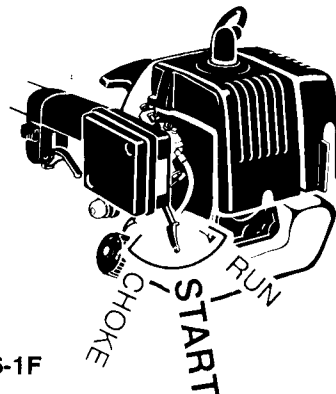

Figure 6-1F
5. Move choke lever to "START" position. Pull starter rope again 4 times while holding trigger at the full throttle position. (Figure 6-1F)